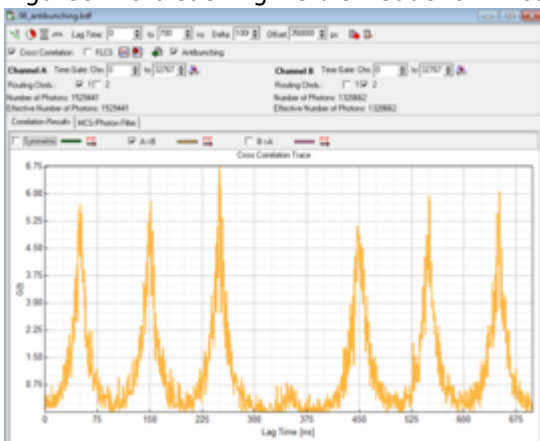

Figure9: Antibunching measured on NV-center. Acquisition time 120 s, 1.3 N.A. oil immersion, 3534.98 a.u. 532
- to perform antibunching measurements on a selected NV-center choose a NV-center that is isolated, measuring time of 120 s should be enough to yield an antibunching measurement comparable to figure 9.